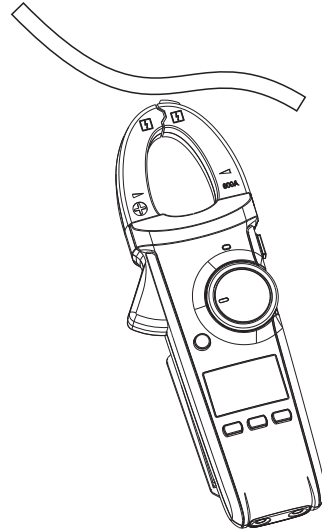

Figure 10
8. Non-contact AC Voltage Sensing NCV (See Figure 10)